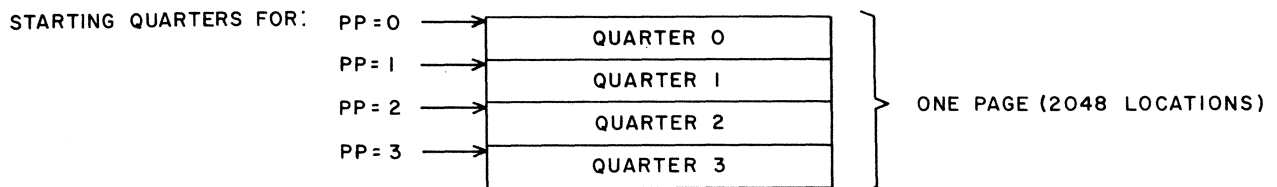

Figure 5-3. Selecting Starting Quarters
Partial Page (PP): Each page in memory is subdivided into quarter (partial) pages numbered 0-3. The PP portion of the index (bits 00 and 01) specifies which quarter page is assigned as the starting point for addressing. The assigned quarter page designator is added to bits 09 and 10 of the original address to obtain the actual quarter page where referencing occurs (refer to Partial Page Adder in this section). Figure 5-3 shows the significance of PP bits in selecting starting quarters.